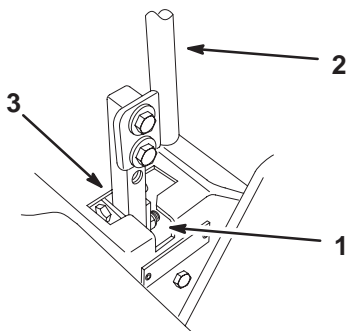

Figure 44
5. Move lever to the neutral position but **not locked** (Fig. 44).
7. Check where the control lever is relative to notch in console (Fig. 44). It should be centered allowing lever to pivot outward to the neutral lock position.
9. Apply slight rearward pressure on the motion control lever, turn the head of the adjustment bolt in the appropriate direction until the control lever is centered in neutral lock position (Fig. 44).